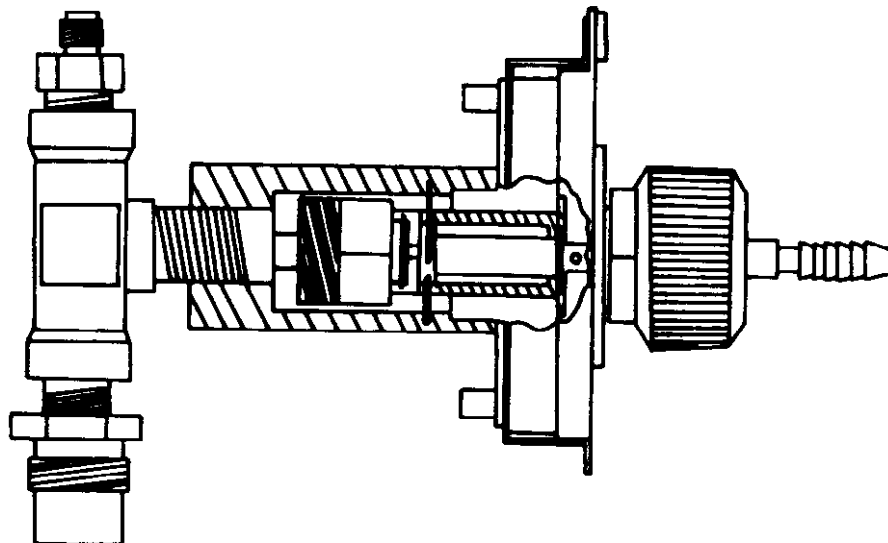

Figure 22
5. When DISS adapter is attached, piston is pushed back and seal between o-ring on piston and the front body is broken to allow gas flow. Piston also pushes secondary check further back to allow better gas flow. See Figure 22.